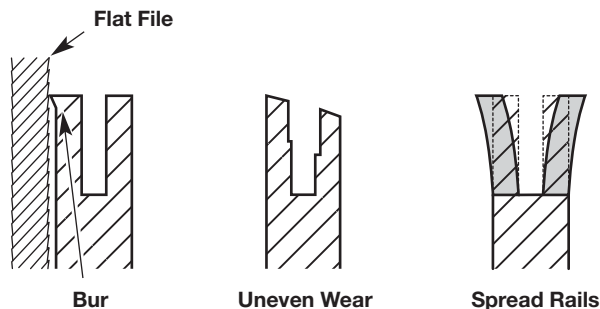

Fig. 46
- Frequently check the guide bar for damage (Fig. 46). Feathering and burring of the guide bar rails (the ridges on either side of the bar groove) is a normal process of guide bar wear. Such faults should be smoothed with a file as soon as they occur (Fig. 46). A guide bar with the following faults should be replaced: